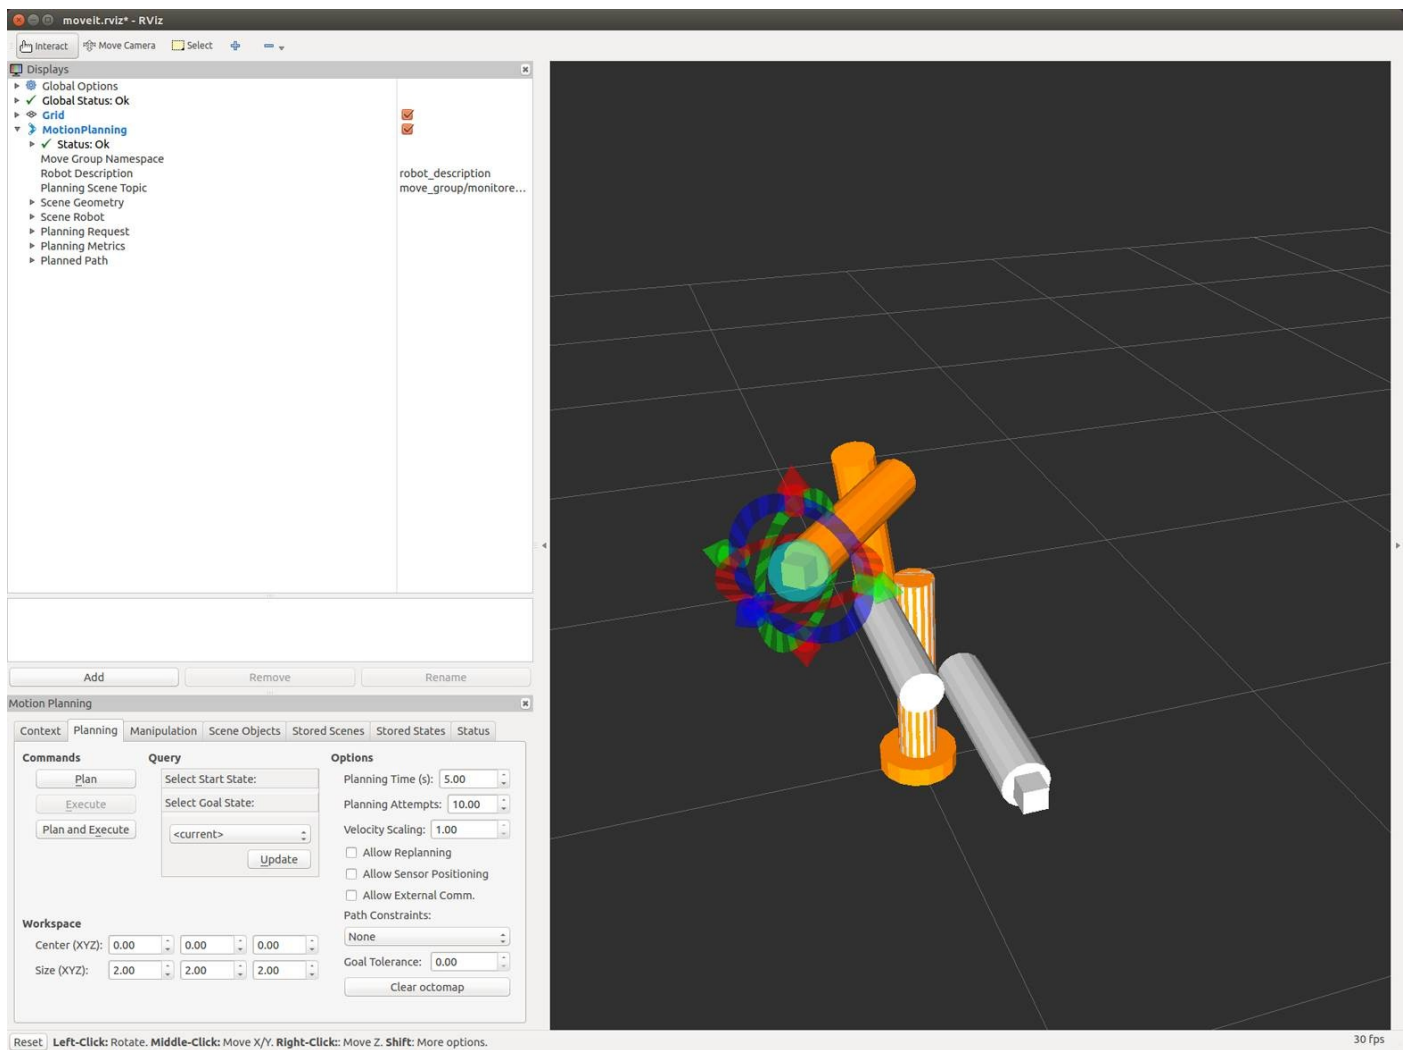

Figure 18-14. Using rviz to define a goal configuration
Click on Motion Planning → Planning. Now we're ready to start playing with the robot. In the rviz window, the multicolored marker attached to the robot's hand allows you to translate and rotate the hand in space. As you do that, the inverse kinematics (IK) solver is trying to find a configuration of the robot arm that will put the hand where you want it. The configuration that it finds will be visualized for your review, as shown in **Figure 18-14**.